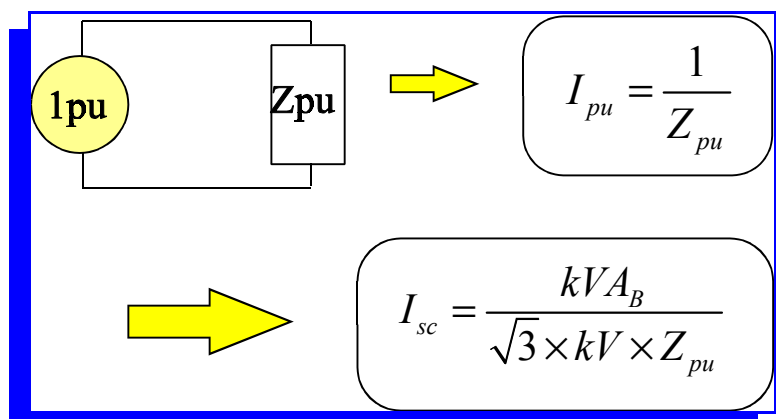

Figure 1 – Development of Equation (16)
Equation (16) can be developed from Figure 1